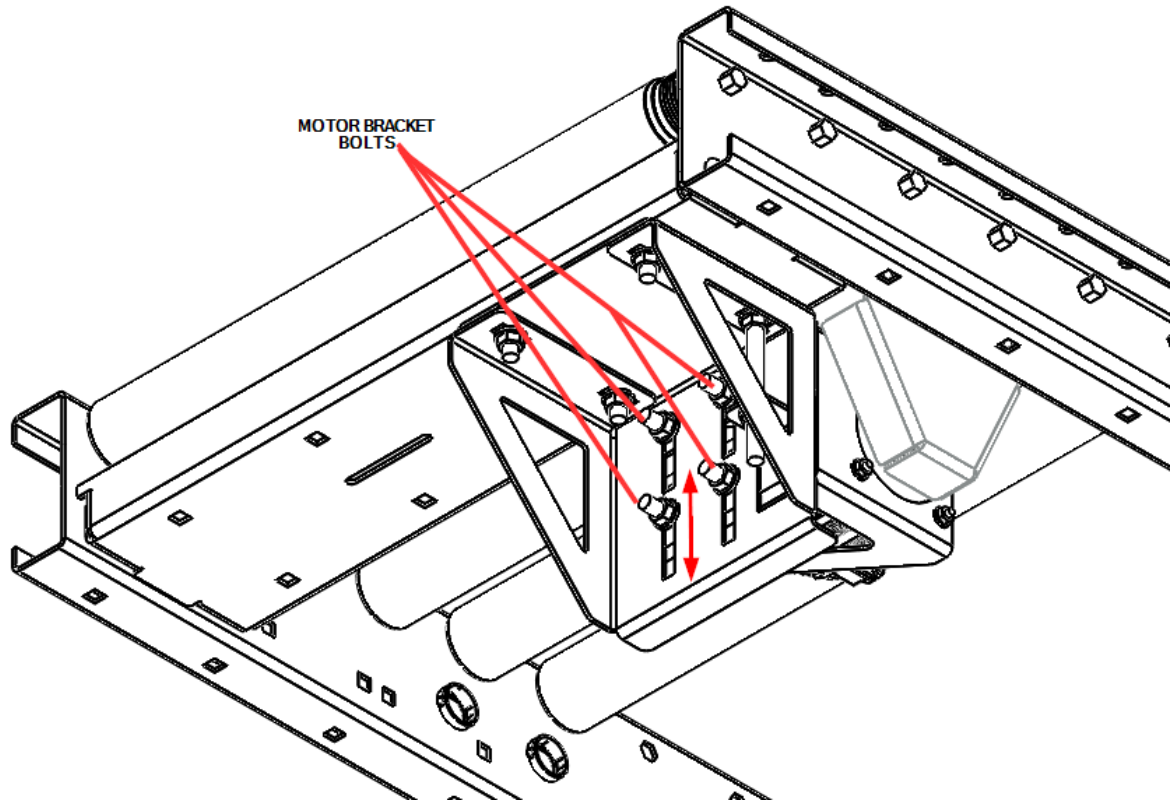

Figure 41: RLVD Motor Bracket Mounting Bolts
3. Allow the motor to move within the mounting slots by loosening the four bolts shown in Figure 41